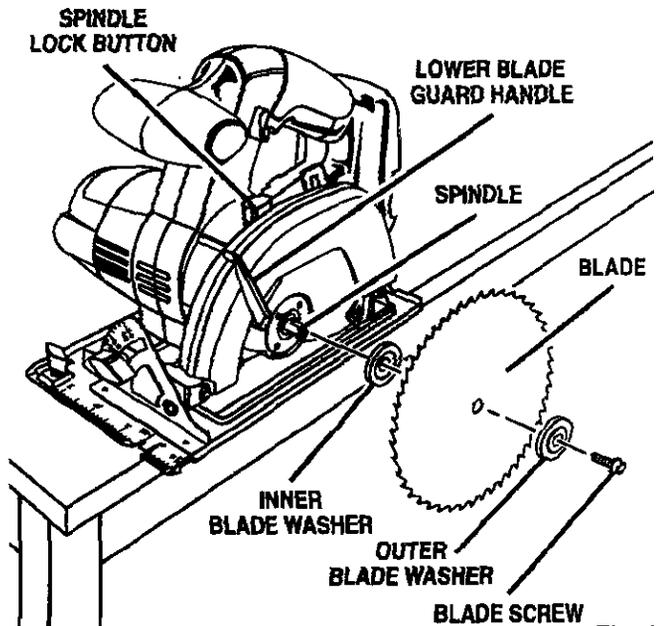

Fig. 4
See Figure 4.
- Depress spindle lock button and remove blade screw and outer blade washer. See Figure 4.
Note: The saw teeth point upward at the front of saw as shown in figure 4.
- Remove outer blade washer. See Figure 4.